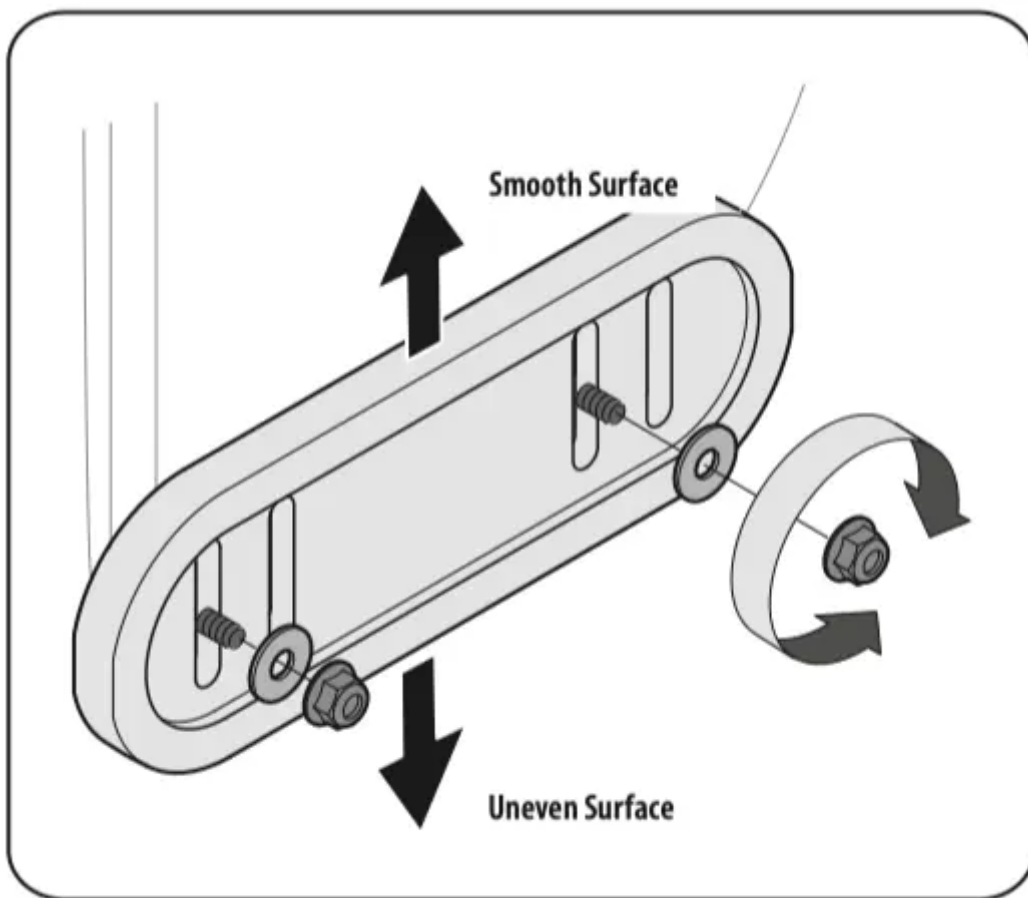

Figure 45
- For close snow removal on a smooth surface, raise skid shoes higher on the auger housing. Refer to Figure 45.
1. Loosen the four hex nuts (two on each side), flat washers, and carriage bolts. Move skid shoes to desired position. See Figure 45.
**NOTE:** The skid shoes on your unit may look slightly different (and have different hardware) than ones shown in Figure 45.